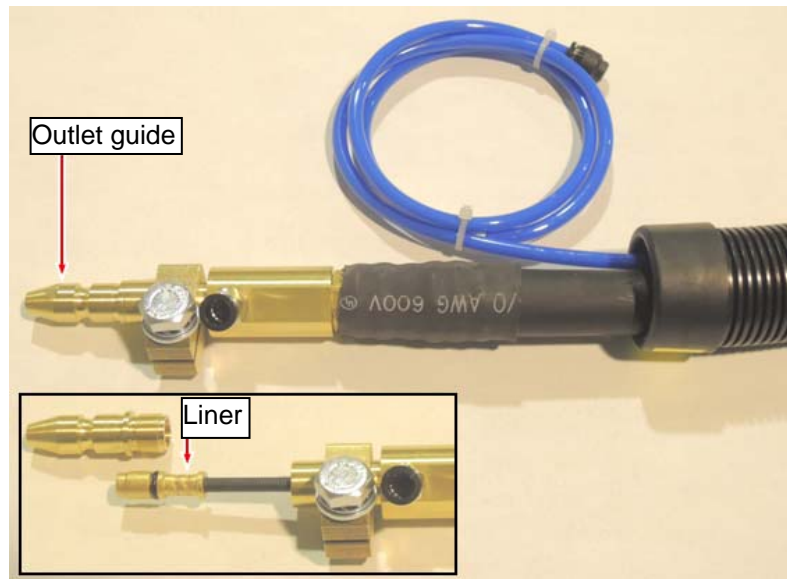

Fig. 8.4 Replacing the liner
- 14 Loosen a fixed bolt of the wire feeder to the torch cable to become parallel to wire feeder, insert torch cable to a deep corner and tighten the bolt which is inside the wire feeder with wrench (1/4in) which is appended to wire feeder . (Recommended tightening torque 10 to 15 Nm)(refer to Fig. 8.4
- (e)) This part is thumb screw depending on the time of shipment. In this case, tighten it with torque of 10Nm. (See Fig. 8.4 (g).)
- 5 Remove the outlet guide and pull out the liner referring to Fig. 8.4.